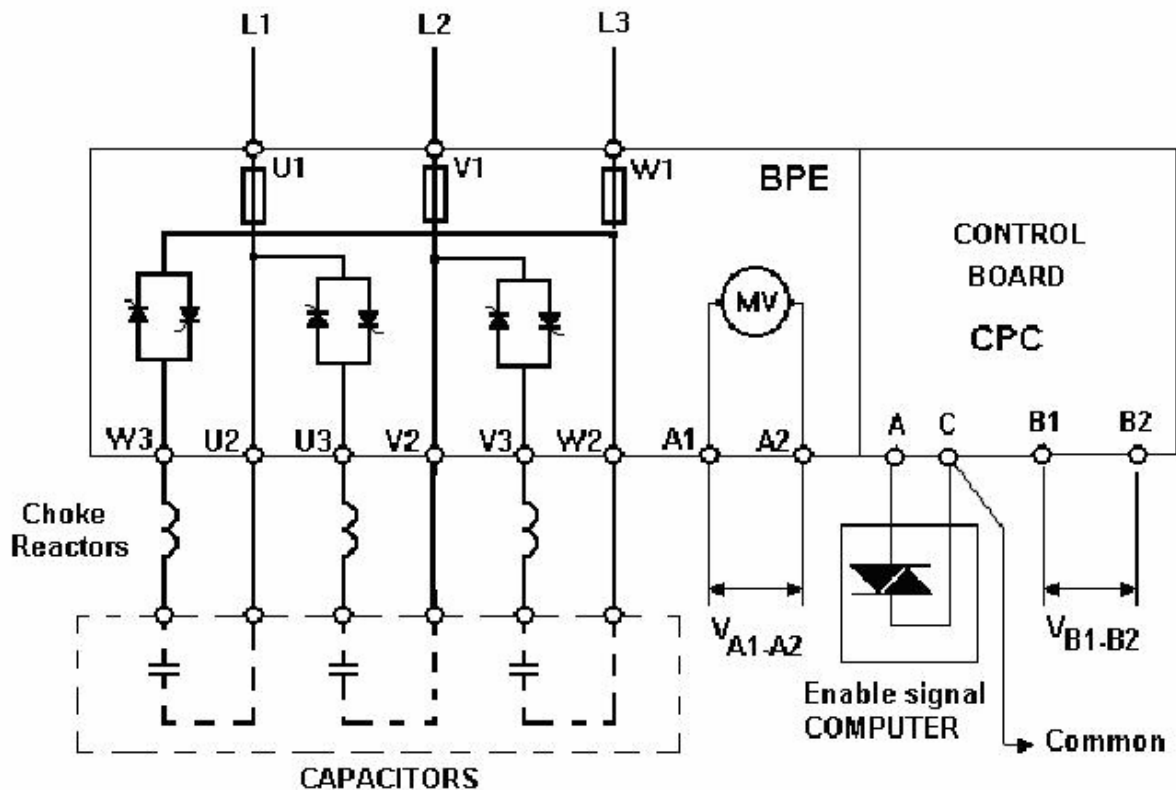

Figure 2.- Basic wire diagram for a three phase EM module.
- For this application the three phase EMF or EMB modules must be used together with three single phase capacitors or a three phase capacitor with 6 terminals (internally built as three single phase caps.). The connection of each EM module to the corresponding step of capacitors must be as shown in figure 2.
All the EM modules consist of two basic blocks: (See figures 2 and 3).
- Check that the connections between the EM modules and the capacitors correspond to one of the figures 2 o 3.